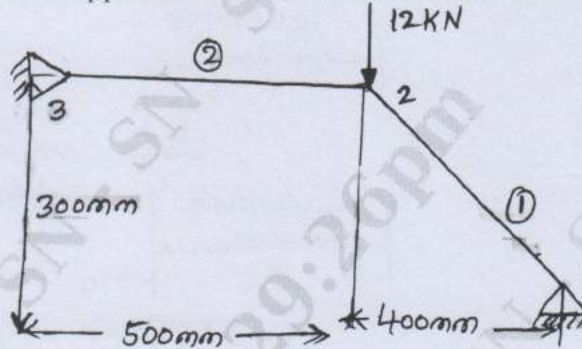

Fig Q6(b)
b. For the two bar truss shown in Fig Q6(b), determine the nodal displacement, stress in each element and reaction at the support. Take  $E = 2 \times 10^5 \text{ MPa}$ ,  $A_e = 200 \text{ mm}^2$ .